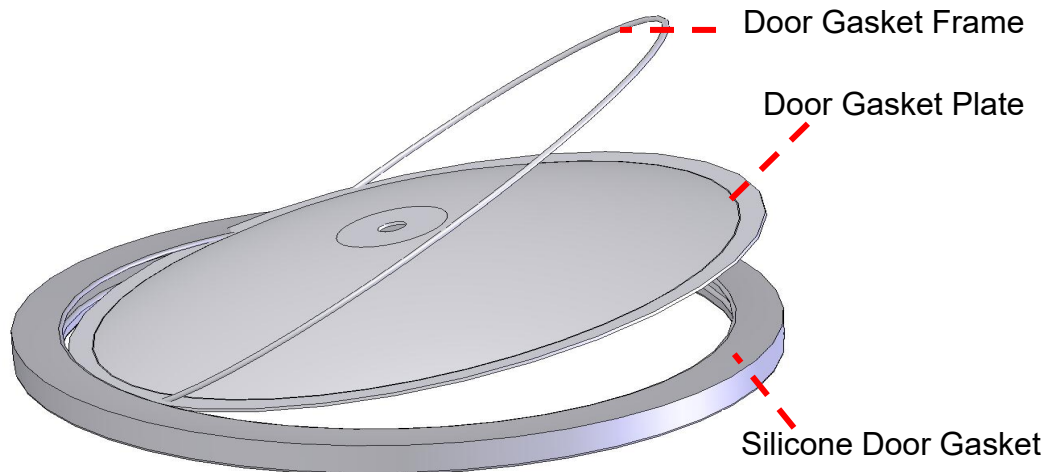

Figure 55
1. Remove the gasket assembly from the door groove, and then take out the door gasket frame, door gasket plate from the old gasket. Install the door gasket frame, door gasket plate to the new gasket as shown in Figure 55.